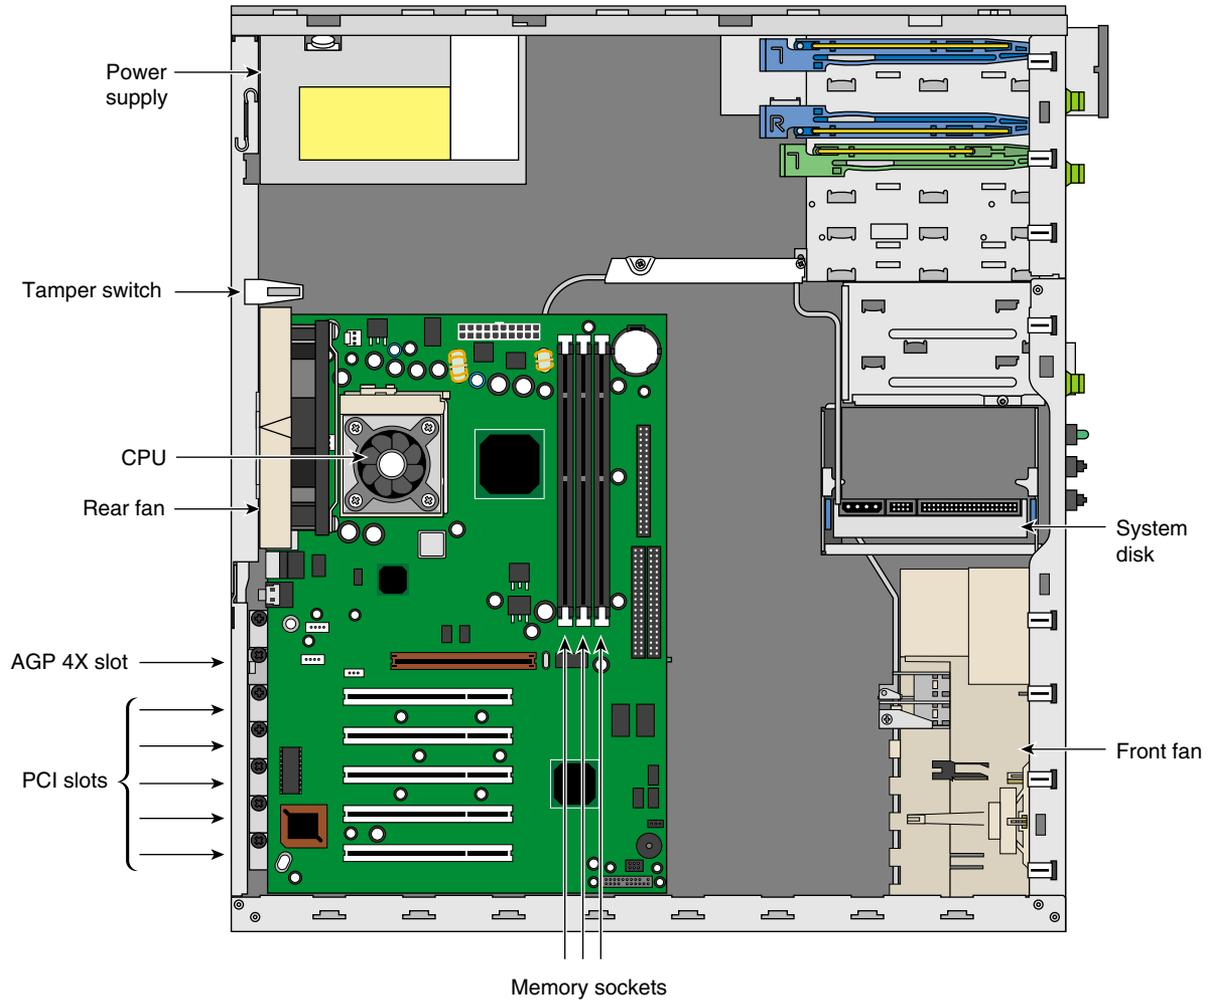

Figure 1-4 Internal Structure
This section describes the location of the main components inside the Silicon Graphics 230 Visual Workstation chassis as illustrated in Figure 1-4.
- The Silicon Graphics 230 Visual Workstation is cooled by three fans—one front system fan and two rear system fans (see Figure 1-4). The front fan pulls the cool air into the chassis, while the two rear fans pull the warm air out of the chassis. One rear fan is located on the rear panel; the other rear fan is located in the power supply.